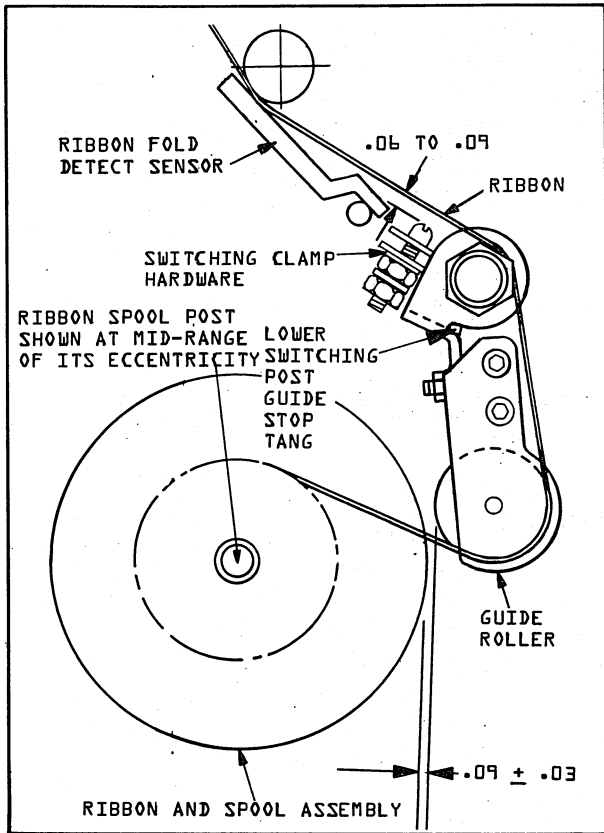

FIGURE 5-21C. GUIDE ROLLER POSITIONING
3. Refer to the preceding Static Ribbon Operation and operate the printer or ribbon spool post and observe for wobble. Stop the printer or disconnect the test jumper to stop the post at a point of center vertical alignment with minimum offset caused by wobble. (see Figure 5-21C). Apply a slight pressure back and forth at the top of the ribbon spool post to identify any mechanical play which would require center positioning. Repeat the test as required until the post appears vertical without wobble.
16. Pivot the roller away from the ribbon spool and check for a gap between $0.090 \pm .030$ inch (2.29 ± 0.76 mm) between roller and the spool flange (see Figure 5-21C). Check for a clearance of 0.060 to 0.090 inch (1.52-2.29 mm) between the ribbon and the hardware holding the switching clamps.